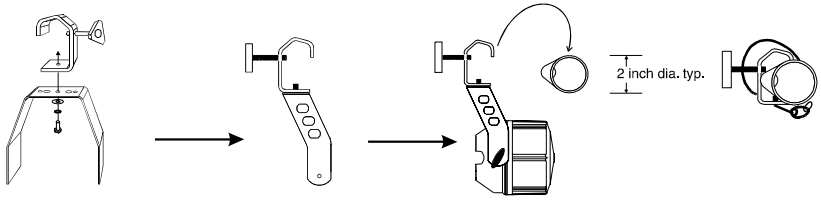

Figure 8. Mounting the Fixture
10. At this point, you can mount the fixture and yoke in any of several ways: C-clamping it to a truss or bolt it to a flat surface through holes in the top of the yoke, etc. Refer to Figure 8.